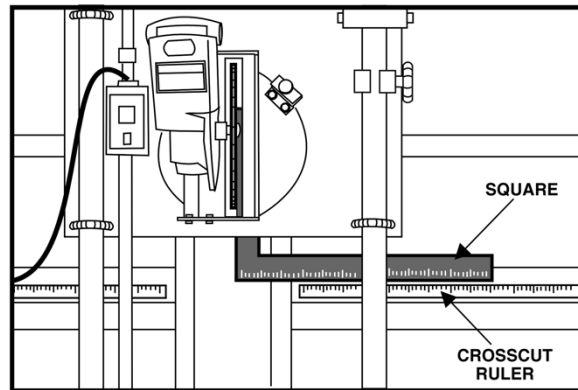

Figure 13
3. Using a square that measures at least 14" on one side, line up one edge of the square with the tips of the saw blade, and the other edge with the crosscut ruler. See Figure 13.